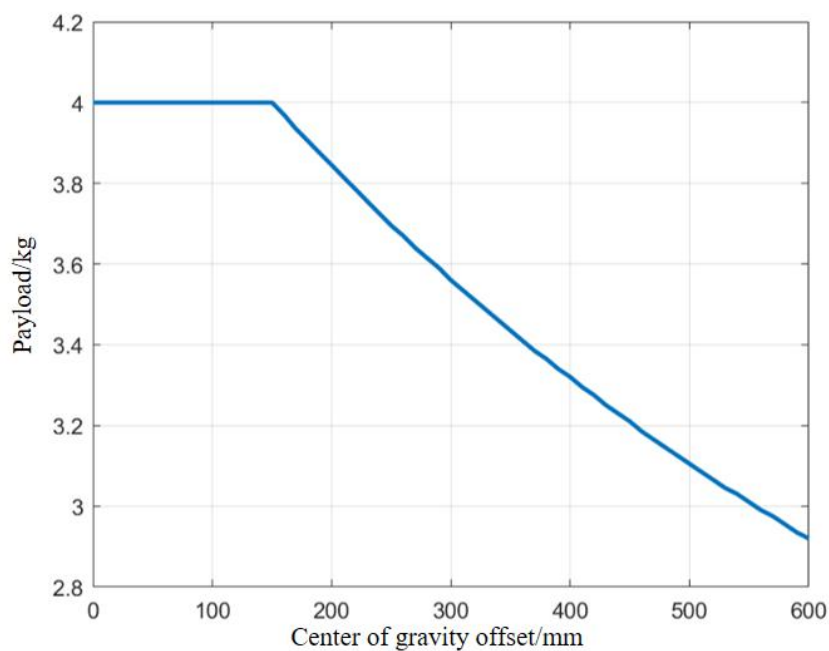

Figure B-2 G4 Payload and Center of Gravity Offset Curves
- The relationship curve between the payload of the G4 collaborative robot and the payload center of gravity offset is shown in Figure B-2.